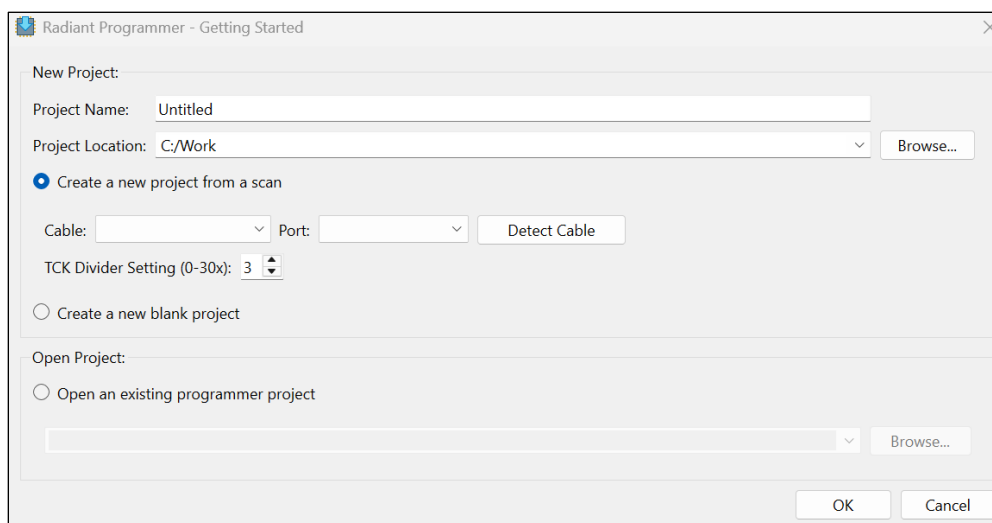

Figure 6.5. Creating a New Project from a Scan
1. Create a new project using the Lattice Radiant Programmer software. In the **Getting Started** window, input the **Project Name** and **Location** as shown in Figure 6.5.